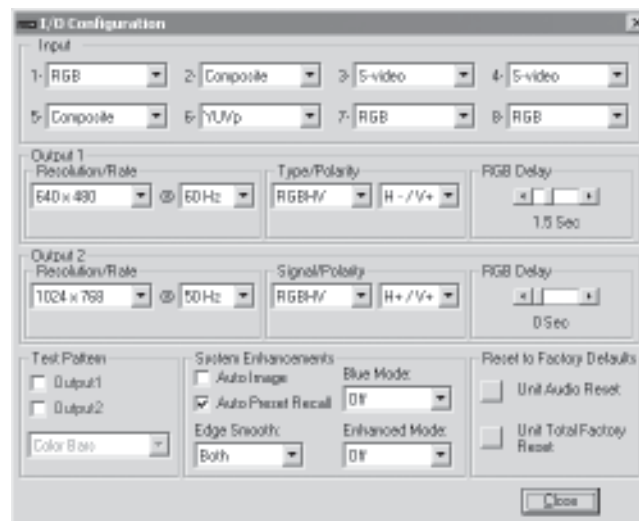

Figure 5-6 — Control program I/O Configuration window
5. If desired, on the task bar click **Tools > I/O Configuration** to configure the video inputs and outputs in the I/O configuration window (figure 5-6).